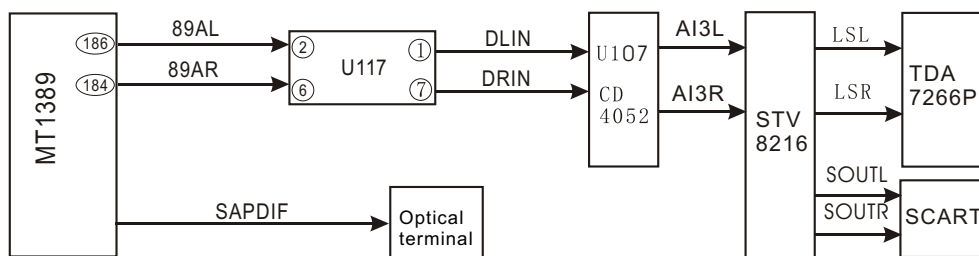

Figure 3.2.11.1 Audio signal flow chart block diagram
1. Audio signal process block diagram is shown in the figure 3.2.11.1: